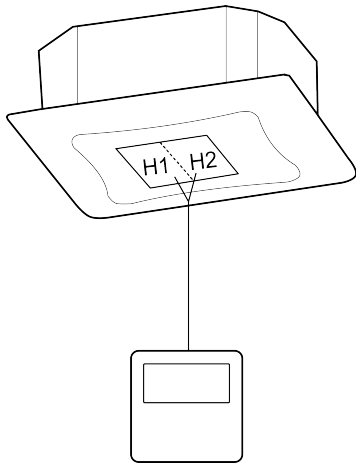
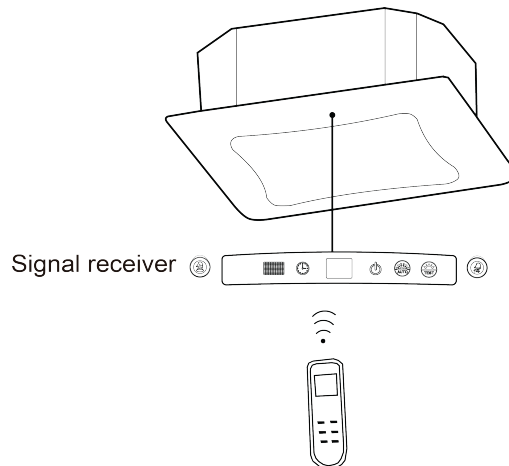

Fig.5.4.1
Fig.5.4.2
- 1) Wired controller is shown as Fig.5.4.1, wireless controller is shown as Fig.5.4.2, signal